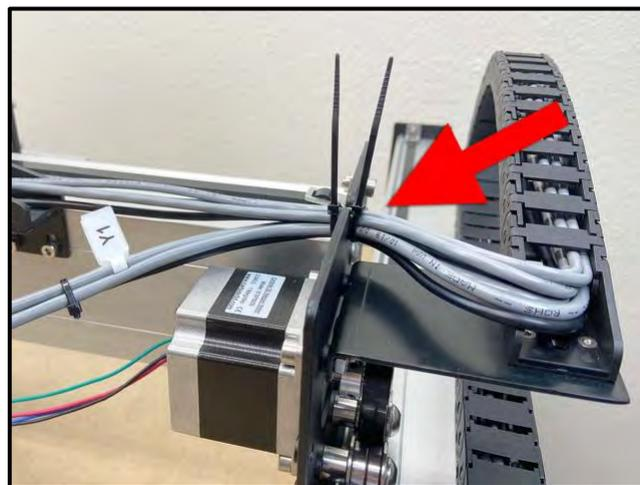
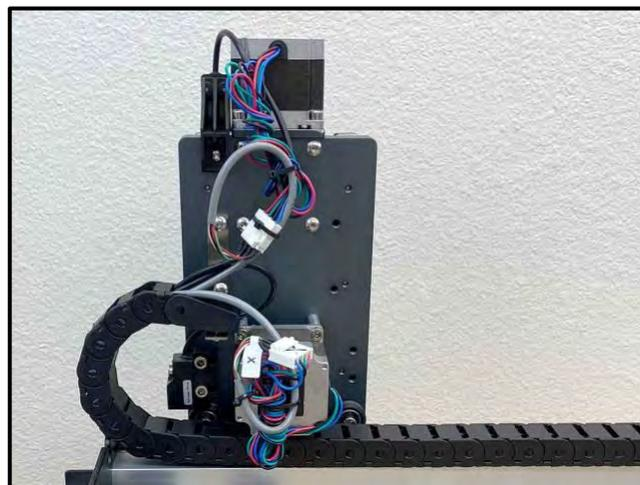

Figure 41
Figure 42
1. Secure the cables crossing the Y1-carriage plate. See *Fig. 41*.
- b. Use two (2) cable ties, one on each side of the cutout, to secure the cables in place.
2. Secure the cables at the rear of the HDZ. See *Fig. 42*.